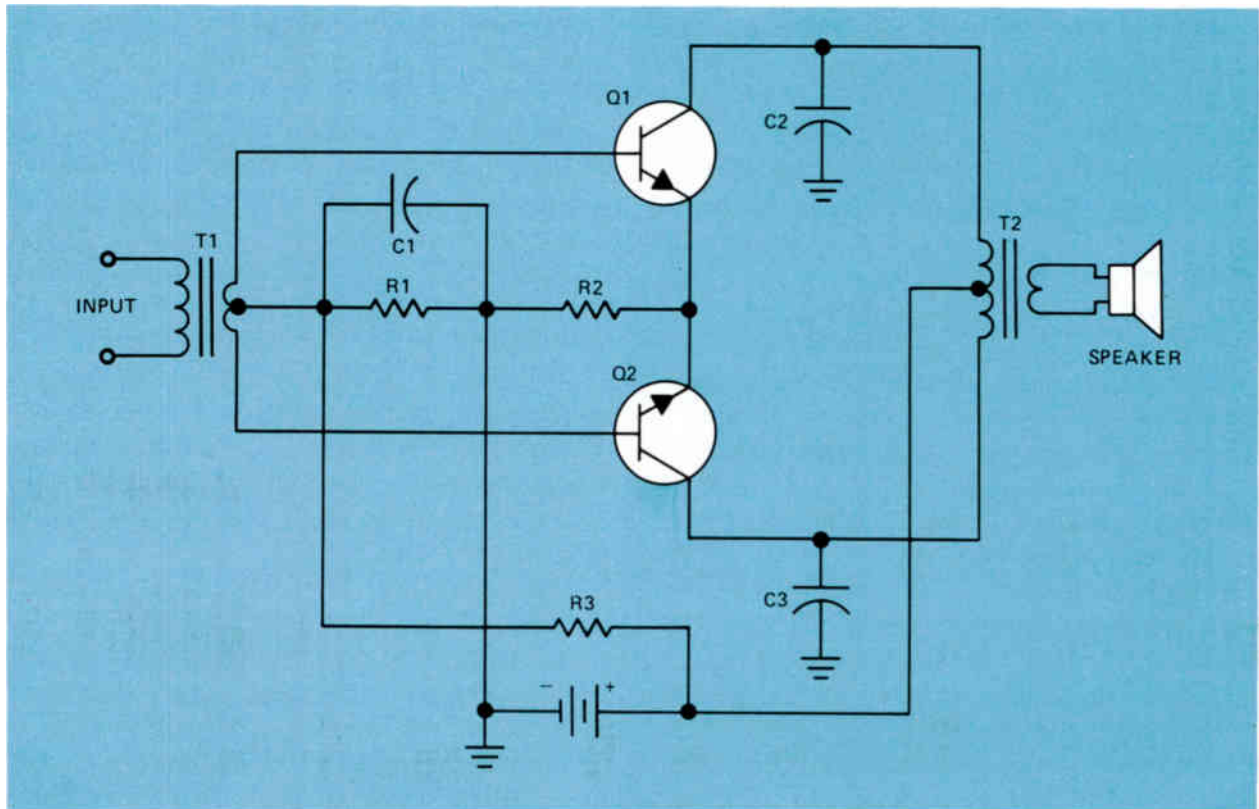
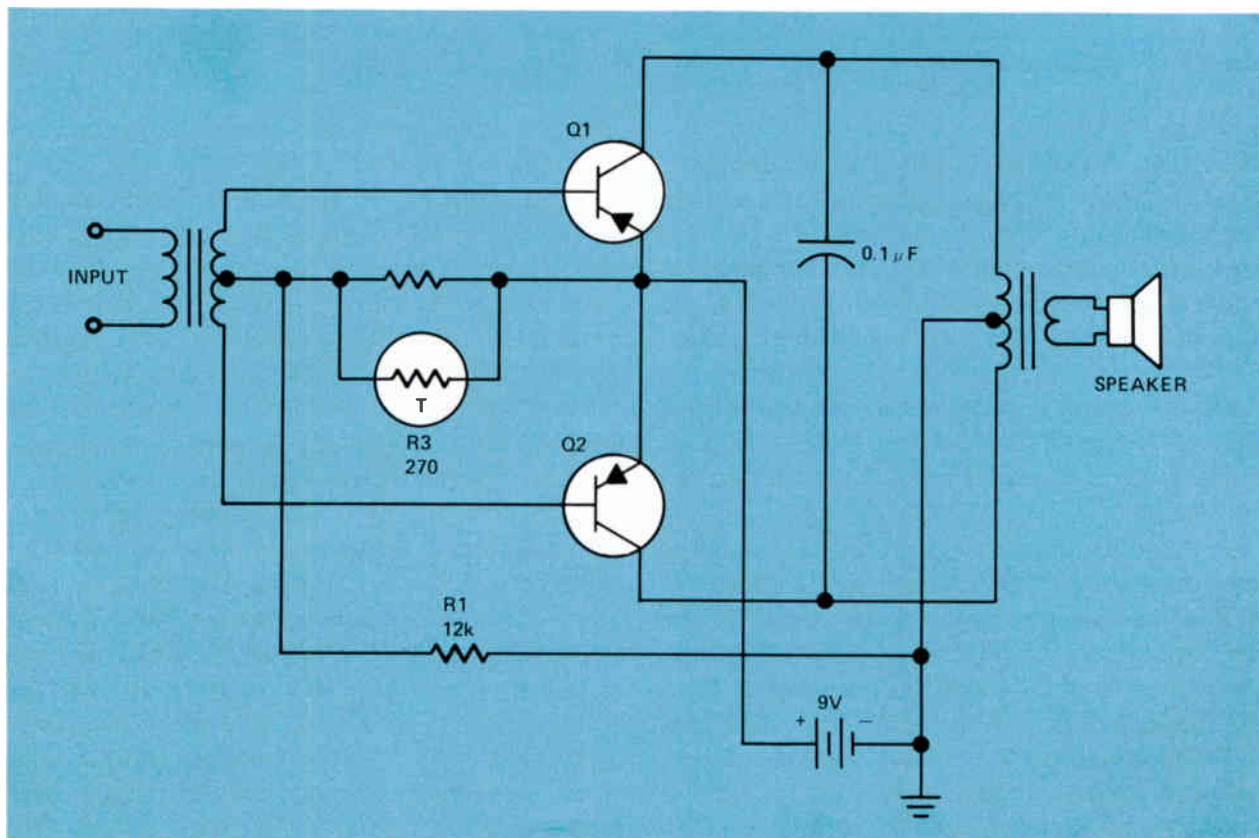

Figure 12. Class A push-pull npn transistors.
Figure 13. Class B push-pull pnp transistors.
A push-pull stage using npn transistors is shown in Fig.12. In this circuit, forward bias on
The circuit shown in Fig.12 is a Class A push-pull amplifier. Class A push-pull amplifiers are widely used because they produce little distortion. Distortion is any change that occurs in a signal that is amplified. For example, suppose a musical instrument is producing a note as a pure sine wave having a frequency of 300 Hz. If the signal is picked up by a microphone, fed to an amplifier, and the signal shape is changed in the output, we have distortion.
A schematic diagram of a Class B, push-pull power amplifier using pnp transistors is shown in Fig.13. The circuit is not too different from the one shown in Fig.12, except there is little or no forward bias applied to the transistors. Thus, with zero signal input, there will be very little current consumed. However when the signal arrives and drives the base of Q1 positive and the base of Q2 negative, the number of holes flowing through Q2 will increase whereas the number flowing through Q1 will drop to zero. This will mean that current flowing from
- 12 When a signal is applied to Q1 and Q2 in the circuit shown in Fig.12, what happens to the current through R2?
- 13 What is the advantage of using a Class B push-pull power amplifier such as shown in Fig.13 in a portable transistor receiver?
- 14 What are two advantages of eliminating the input and output audio transformers shown in Fig.13?